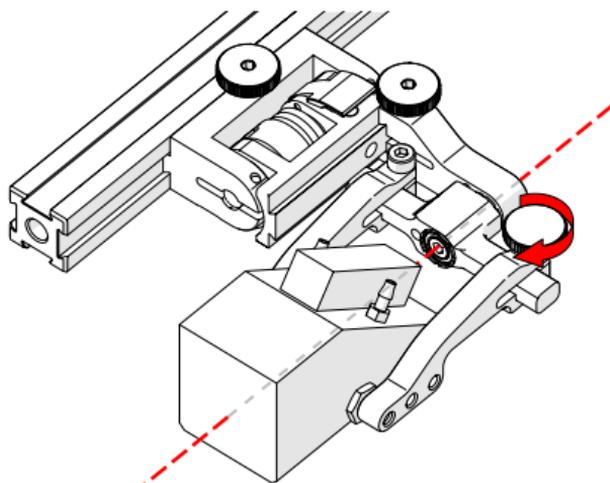

Fig. 95 - Pinch wedge with arm
9. Tighten the probe holder arm adjustment knob (Fig. 95).